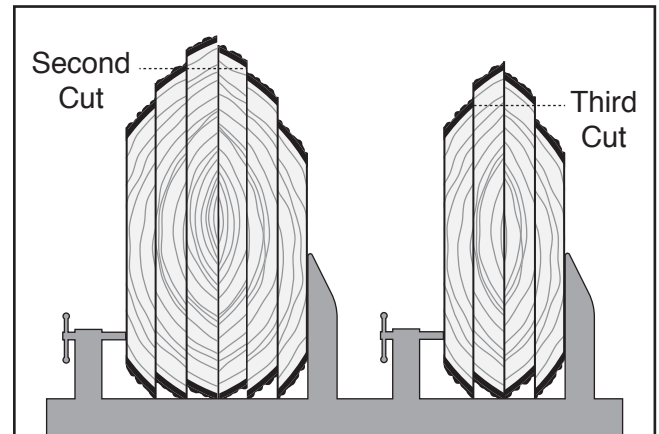

Figure 47. Tallest flitches to be removed after each cut.
3. Remove edged flitches, then secure the rest (see **Figure 47**).
4. Repeat **Steps 2–3** until all flitches have been edged once (see **Figure 47**).